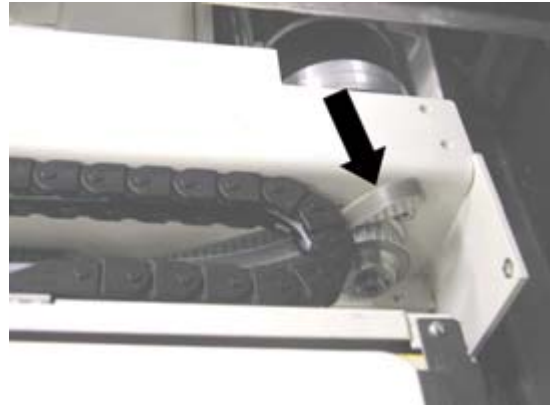

Fig. 91: Tensioning device (3)
- Remove the toothed belt on the motor from the sprocket, see (Fig. 91 / p. 86).